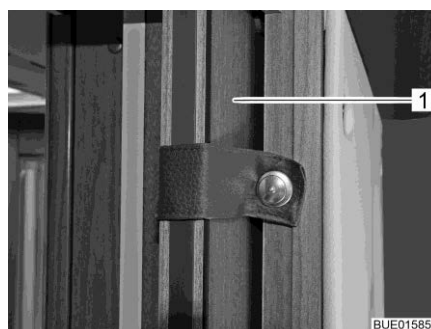
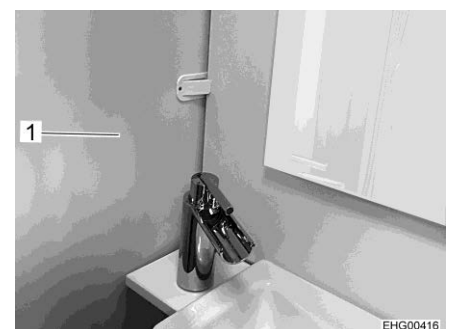

Fig. 15 Sliding door
Fig. 16 Shower partition
- Secure doors (Fig. 15,1) or partition walls (Fig. 16,1) with the locks or means of securing provided.